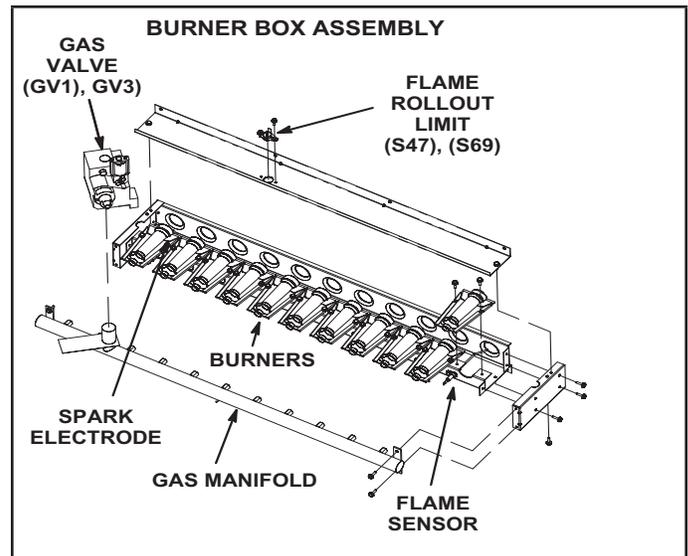

FIGURE 24
- 3 - Remove screws securing burners to burner support and lift the individual burners or the entire burner assembly from the orifices. See FIGURE 24. Clean as necessary.